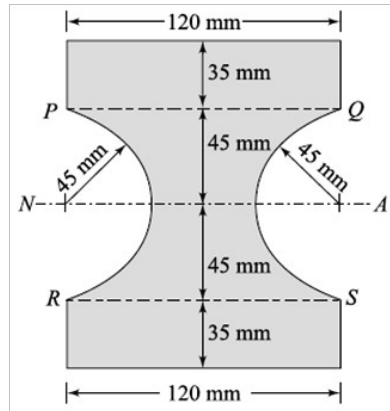

Figure 2
6. The cross-section of a steel beam, shown in figure 2 is subjected to a shear force of 20 kN. Draw the shear stress distribution diagram. [15]